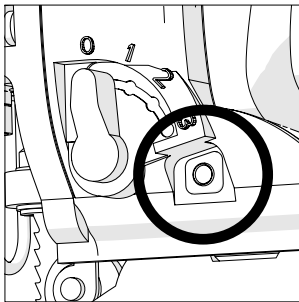

Fig 12
- Push the 'Air Blower' control slide fully to the right (as seen from the operators viewpoint) **(Fig 12)**